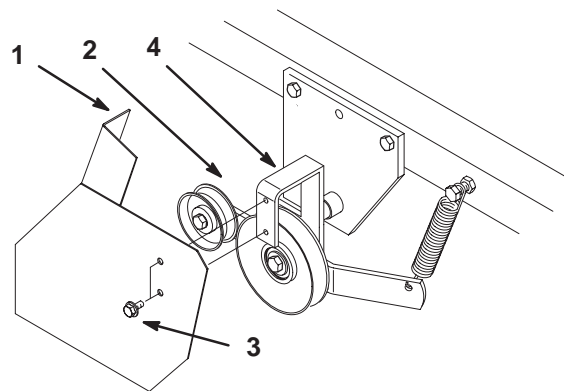

Figure 30
Important Belt must be properly routed behind belt guide to prevent jumping off and premature failure (Fig. 30).
10. Install belt guard to mid-mount bracket with 2 self tapping bolts (1/4 x 1/2 inch) (Fig. 30).